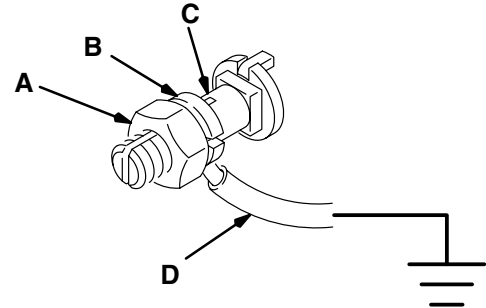

Fig 1
1. *Pump*: use a ground wire and clamp as shown in Fig 1.
To ground the pump, loosen the grounding lug locknut (A) and washer (B). Insert one end of a 12 ga (1.5 mm) minimum, ground wire (D) into the slot in lug (C) and tighten the locknut securely. See Fig 1. Refer to page 16 for ordering a ground wire and clamp. Connect the clamp end of the ground wire to a true earth ground.